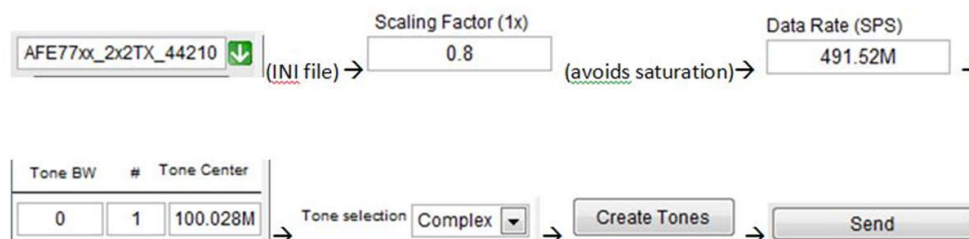

Figure 4-11. Setup a Sinusoid
2. Figure 4-11 shows a pictorial representation to create and send a sinusoid.